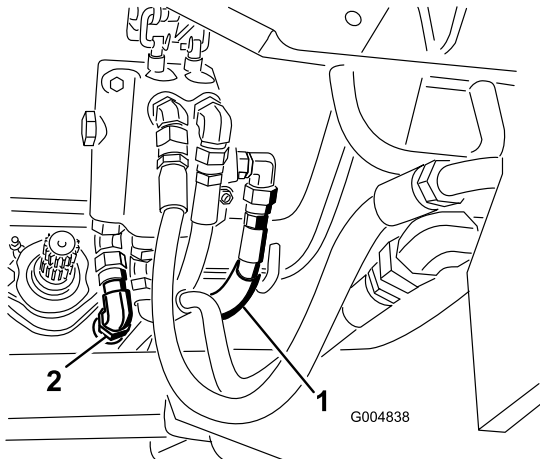

Figure 76
15. Disconnect the tank hose from the control valve (Figure 76). Cap the hose and fitting.
16. Disconnect the pressure hose from the control valve (Figure 76). Cap the hose and fitting. Pull the hose back toward the rear of the frame.